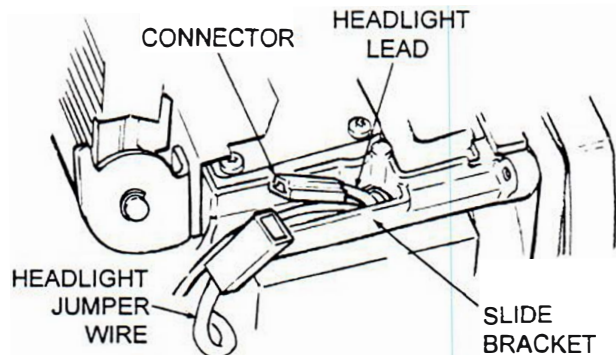

Figure 19. Separation of In-line Connector of Headlight Leads
- A. *See Figure 19.* One of the headlight leads has an in-line connector covered by a clear piece of insulating tubing.